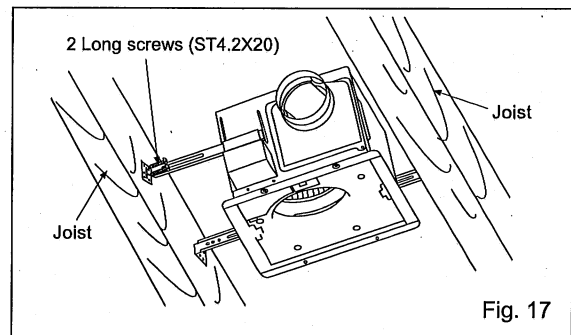

Fig. 17
4. Secure the suspension bracket to joists by using long screws (ST4.2X20). (Fig.17 , Fig.18)